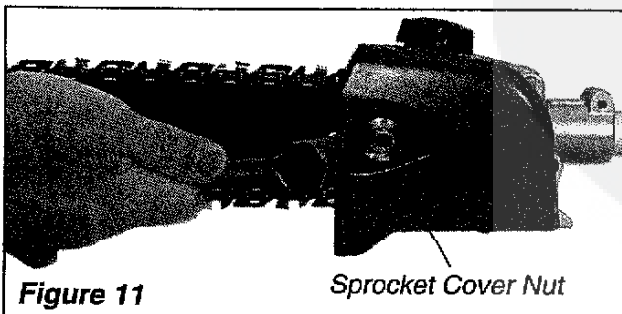

Figure 11
2. Loosen the sprocket cover nut with a plug wrench. (Figure 11).